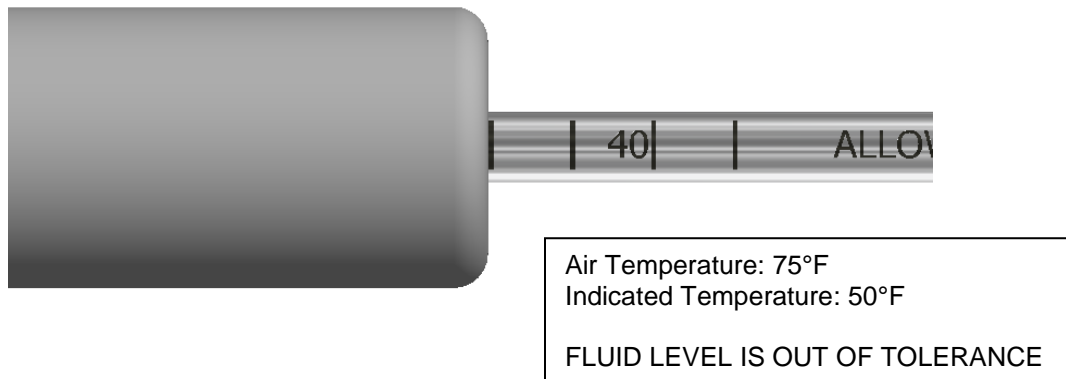

Figure 5: Fluid Check Example (Fluid Level out of Tolerance)
- 5) If the difference between the reading on the tool and the ambient air temperature is greater than 15°F, the fluid level must be adjusted (See Figure 5); complete “HYDRAULIC FLUID LEVEL ADJUSTMENT”.